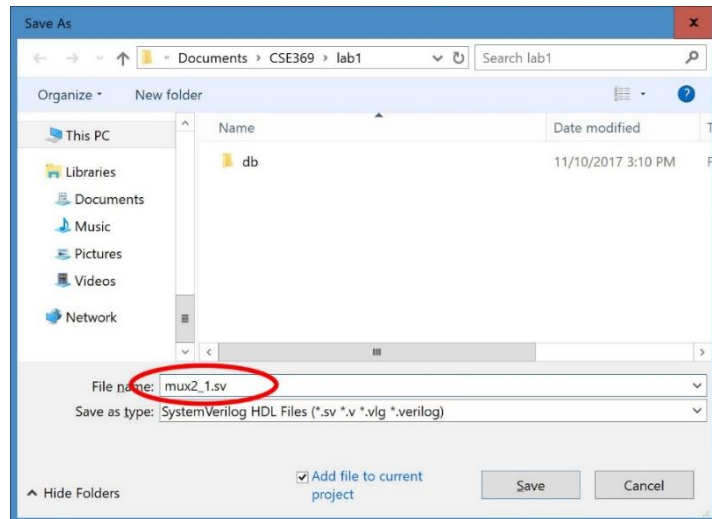

Figure 2: Saving and naming Verilog files in Quartus.
- b. **Name the file.** The new file is opened for you in Quartus’ text editor, but doesn’t have a name yet. Go to File→Save As and give it the same name as the module you are designing (*e.g.*, *mux2_1.sv* as shown in *Figure 2*). The title bar for the editor pane will change.